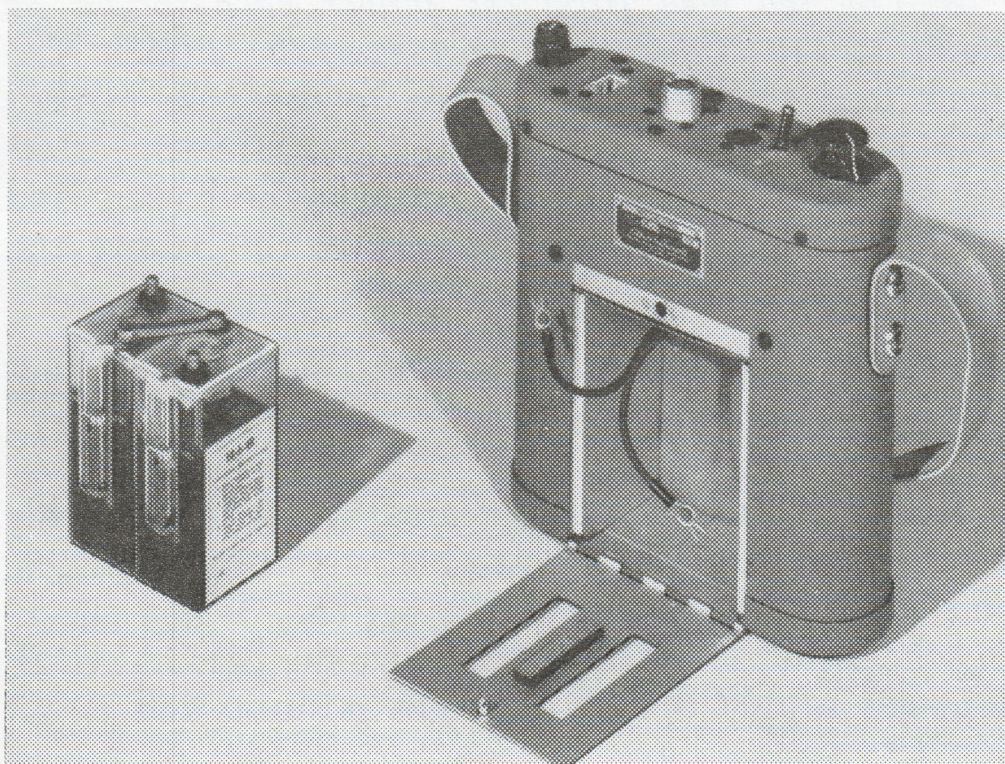

FIGURE 1-A
c. Using the syringe packed with the bottle of 1.28 specific gravity battery solution, fill each cell  $1/8$  inch above the "Liquid Level" line marked on the side of the battery case. *Be sure that the spout on the syringe is inserted through the hole in the bottom of the trap compartment before squeezing the bulb.* No liquid should be in the trap. The plates and separators of the battery will soak up some liquid, and initial filling about  $1/8$  inch above the line will insure adequate level after this absorption takes place. Observe the precautions on the box containing the battery solution. Take every precaution to see that no acid is spilled on top of the battery during the filling process and that there is no trace of battery acid on the top when the battery is placed in its compartment. (Fig. 1-B)